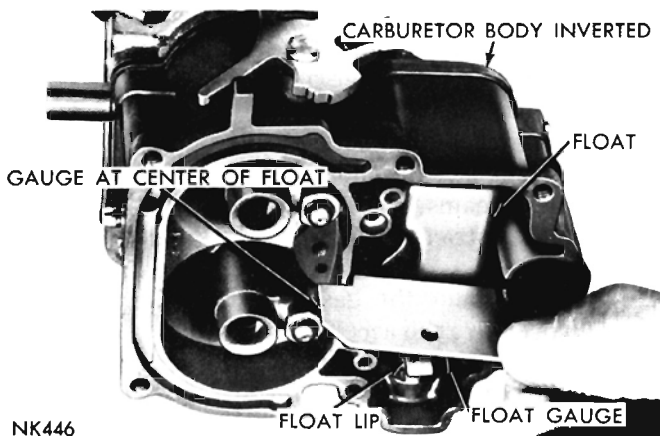

Fig. 14—Measuring the Float Setting
(1) Install the float with the fulcrum pin and retaining spring in the main body.
(2) Install the needle, seat and gasket in the body and tighten securely.
(3) Invert the main body so that the weight of the float **only** is forcing the needle against the seat.
(4) Using Tool 73725 or a "T" scale, check the float, as shown in (Fig. 14). There should be $7/32$ inch from the surface of the fuel bowl (gasket removed) to the top of the float at the center.